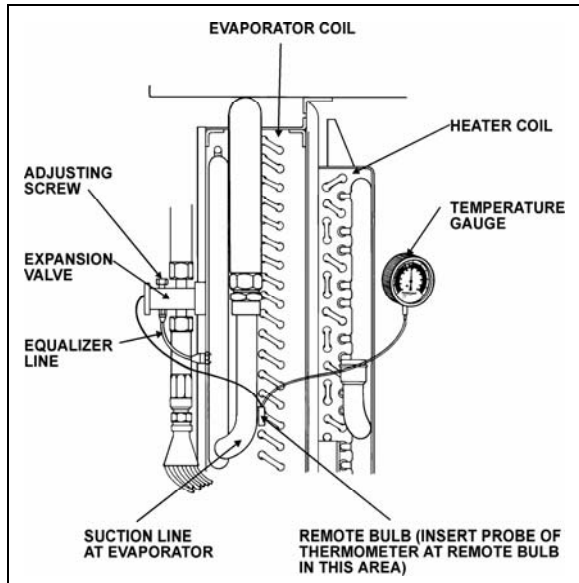

FIGURE 35: SUPERHEAT ADJUST. INSTALLATION 22046
The easiest method of adjusting the superheat is to unscrew completely the main evaporator expansion valve adjusting screw, and screw in 13 turns clockwise for 134A (figure 35). If this method does not provide an accurate superheat, the following procedure should be followed:
- Install a remote reading thermometer to the evaporator outlet line near the existing remote bulb (figure 35).